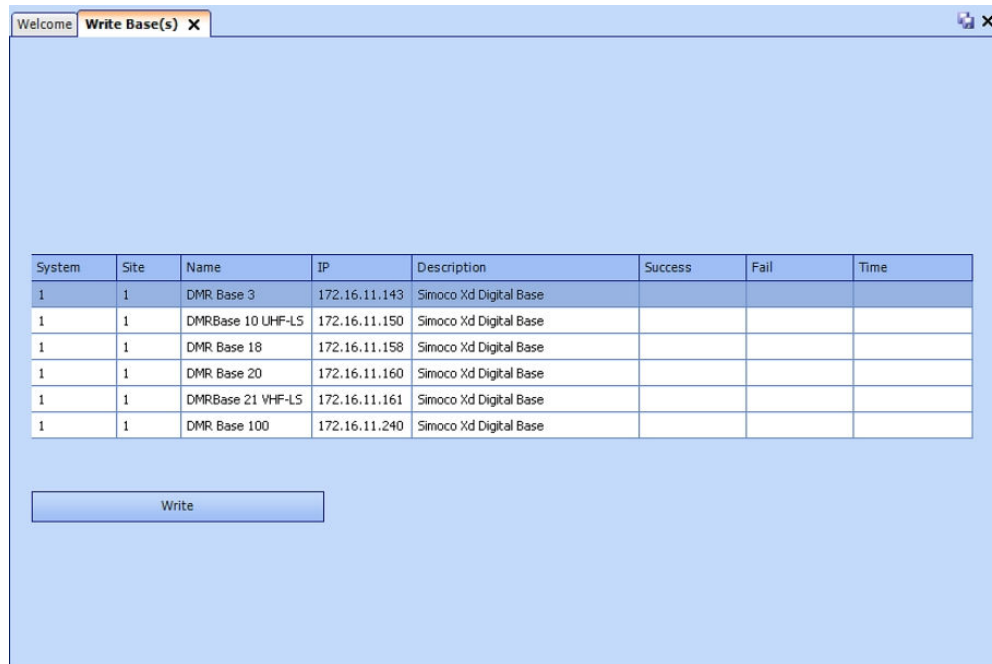

Figure 11. Write Base(s) page.
- 13.8. On the DMR Tier II ribbon bar, select the ‘Write’ button. The ‘Write Base(s)’ page will be displayed (see **Figure 11** overleaf) and any open base configuration pages will be closed.